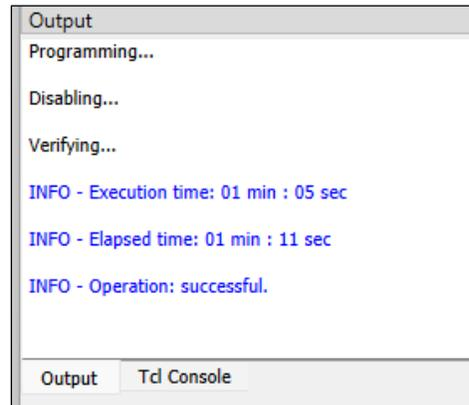

Figure 6.30. Message on Successful Programming
- Verify that the programming status is **Operation: successful** in the output window, as shown in Figure 6.30.